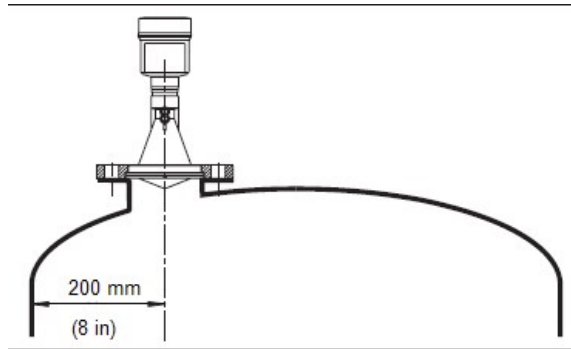

FIGURE 7-1. Mounted on vessel
- **Vessel walls:** When mounting in a vessel, mount the sensor at least 200 mm (8 in) from the vessel wall (see FIGURE 7-1 (p. 13)). In vessels with conical bottom, mount the sensor in the center of the vessel.